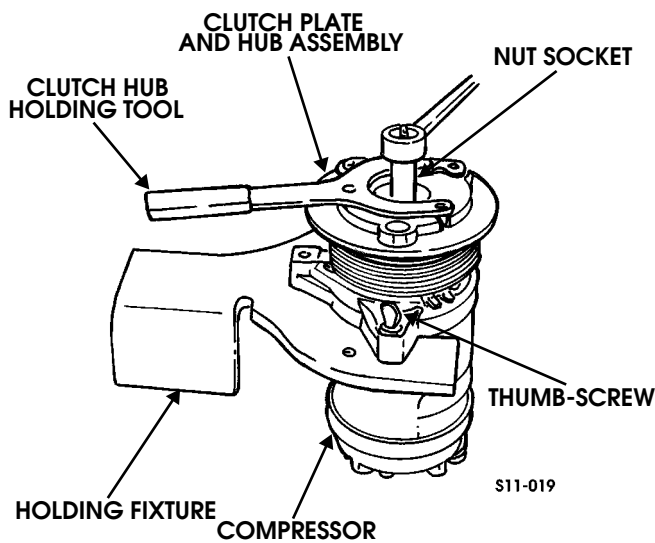

Figure 11-48: Compressor
2. Clamp the holding fixture in a vise and attach compressor to holding fixture from set J34021-A with thumb-screws (Figure 11-48).
- Remove the remover/installer and check for proper positioning of the shaft key (even or slightly above the clutch hub). Install the shaft nut. Hold the clutch plate and hub assembly with clutch hub holding tool, and using nut socket, tighten the nut against the compressor shaft shoulder to 8-16 lb-ft (11-22 N•m) (Figure 11-48).